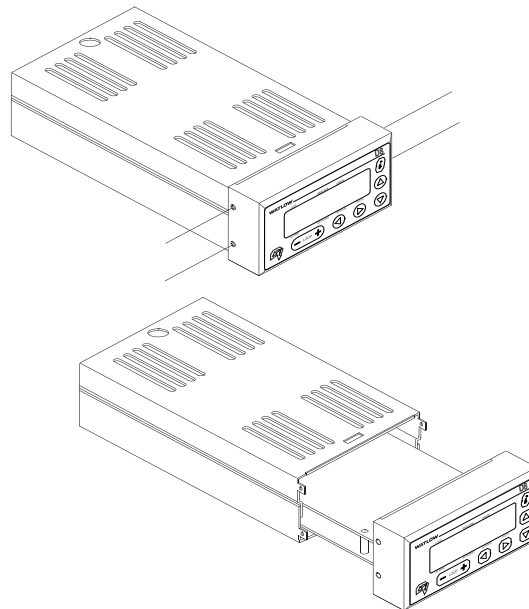

Figure 7.1 Removal of Electronics Assembly from Case
5. Remove the electronics assembly from the case, as shown in Figure 7.1.